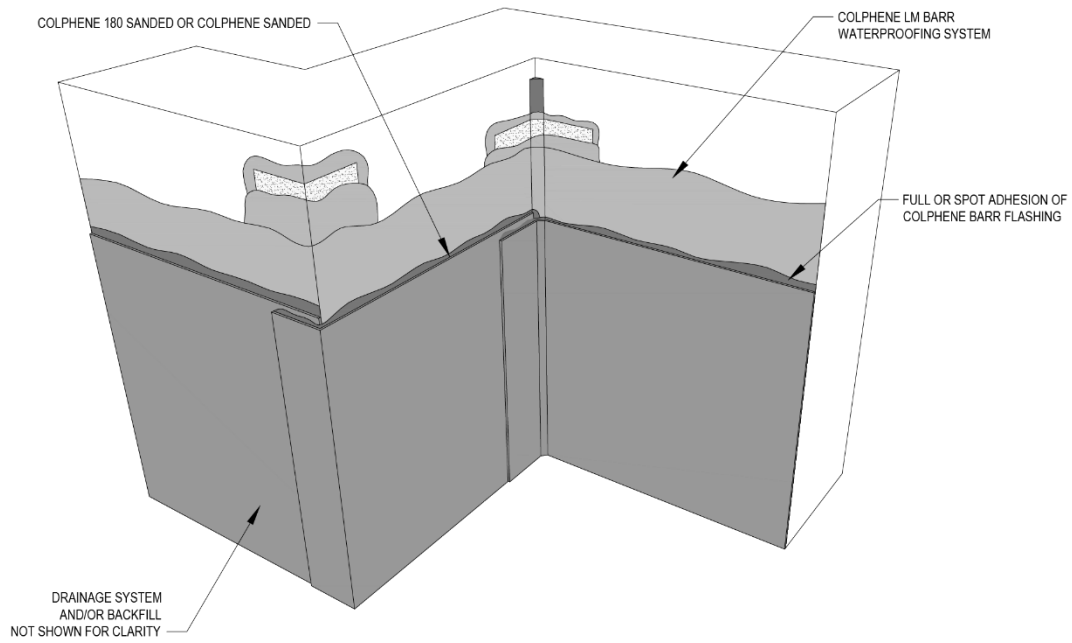
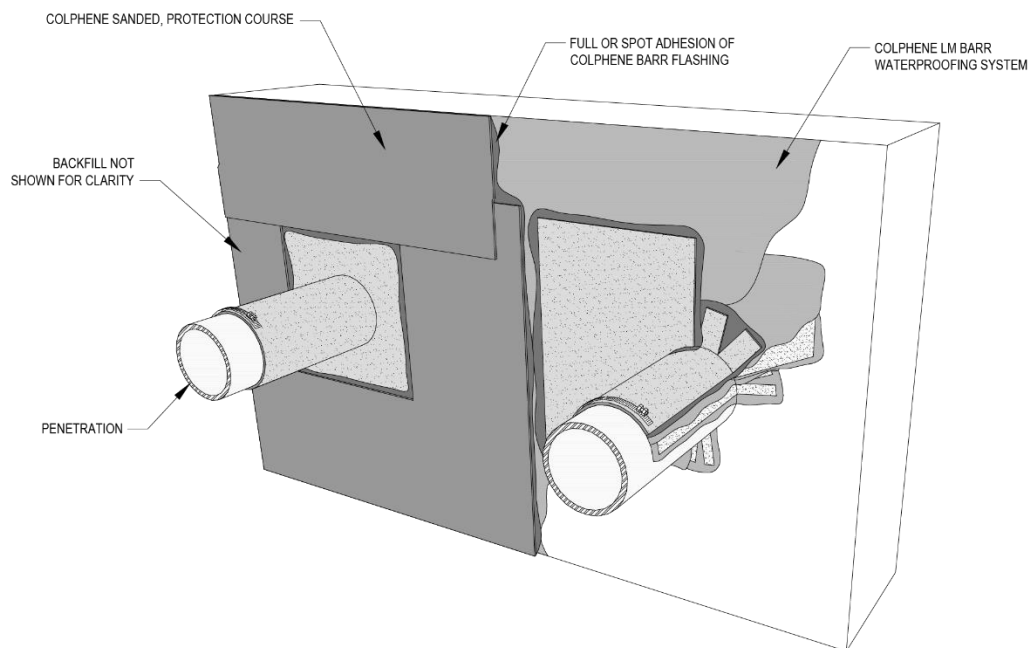
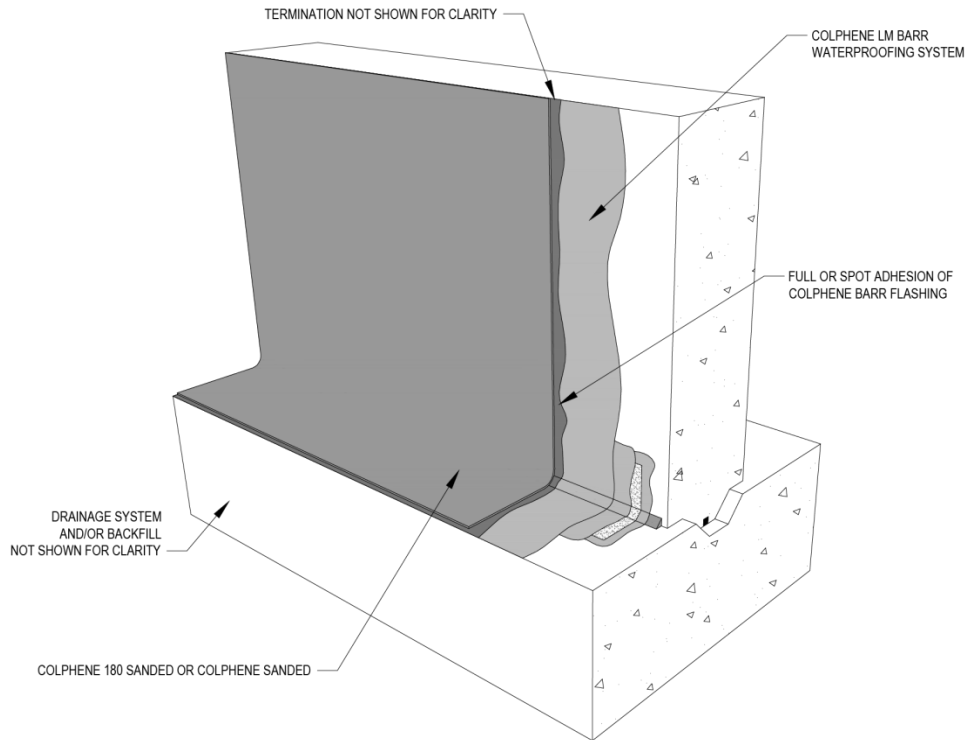

Figure 3.1a COLPHENE® SANDED or COLPHENE® 180 SANDED Protection Course At Inside/Outside Corners
Figure 3.1f COLPHENE® SANDED or COLPHENE® 180 SANDED Protection Course At Penetrations
Figure 3.1k COLPHENE® SANDED or COLPHENE® 180 SANDED Protection Course At Transitions
- Unroll and cut the sheets to working lengths and widths to conform to conditions. Refer to Figure 3.1a, Figure 3.1f, and Figure 3.1k.
- Overlap the sheets onto the flashing protection course to ensure the COLPHENE® LM BARR waterproofing is protected from direct contact with backfill materials. Refer to Figure 3.1f.